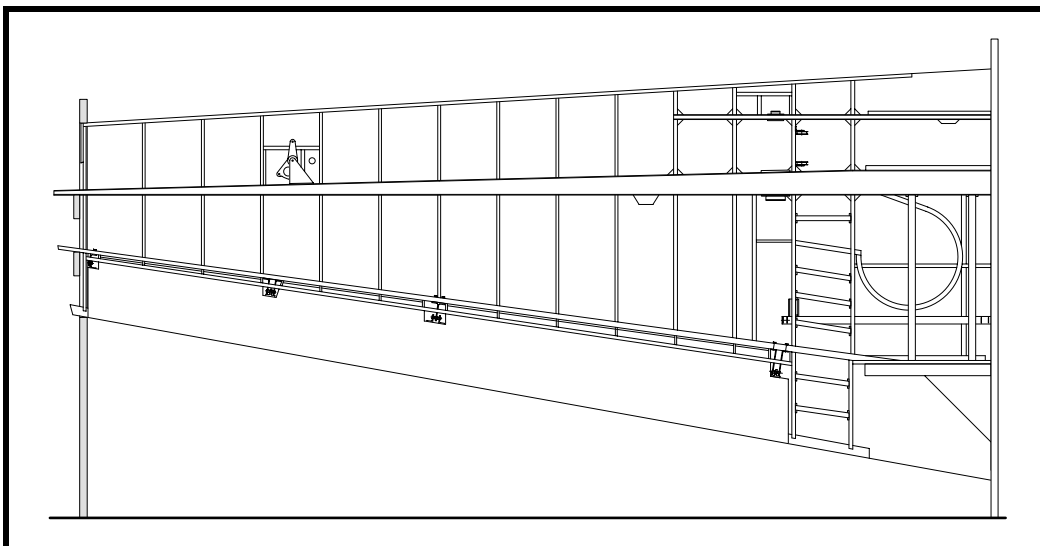

Figure 29
- ❑ Install the seven wing walk supports between Sta. 1 and 2 as shown in Figure 29. See Drawing No. 201, Sheet 1. Note carefully that one of these pieces forms the aft upper end of the opening for the landing gear—install this with a partial saddle gusset, with support on the bottom and aft face only.